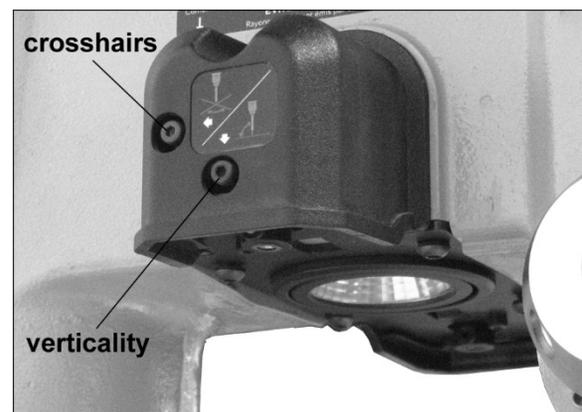

Figure 8-9
4. Use the screw located toward *front* of laser assembly, to adjust verticality of laser line (Figure 8-9). Turn screw as needed (2.5mm hex wrench), and move board side-to-side as needed, until laser light (E) aligns with board marking (B).
- Use the screw (Figure 8-9) located toward back of laser assembly, to adjust the cross hair. Turn screw as needed until laser line (M) crosses perforation (L).